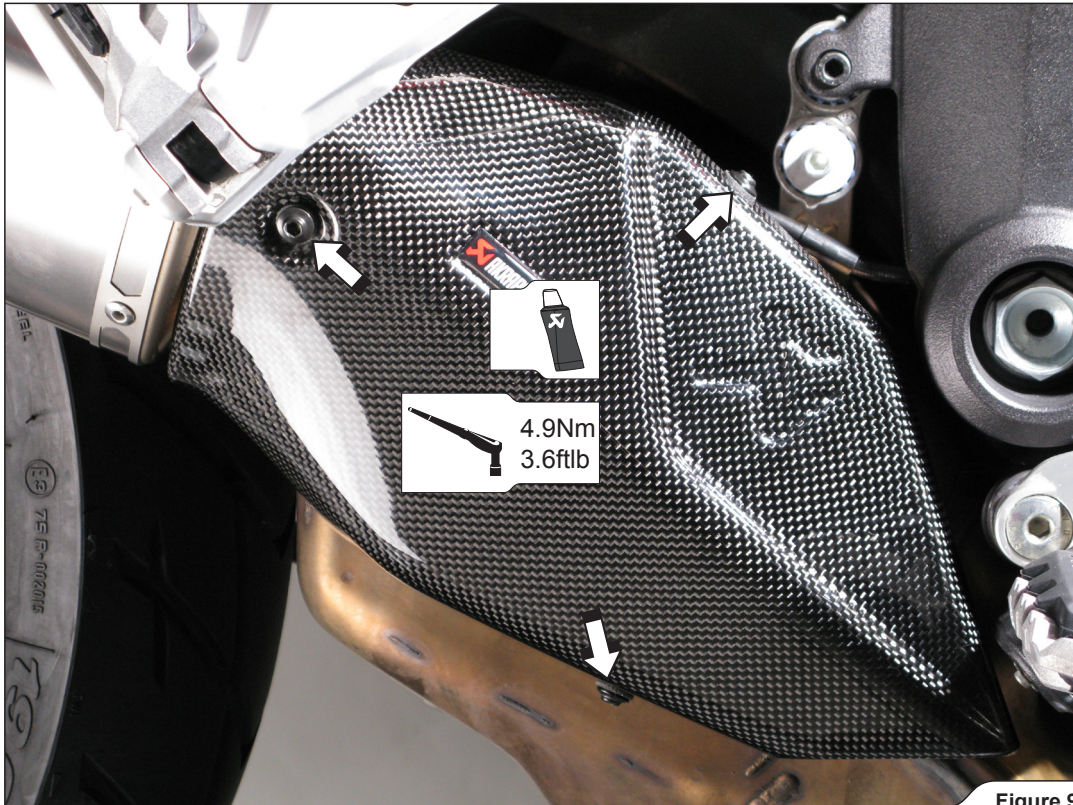

Figure 9
4. Attach the carbon fiber heat shield and tighten the bolts to the specified torque (Figure 9).